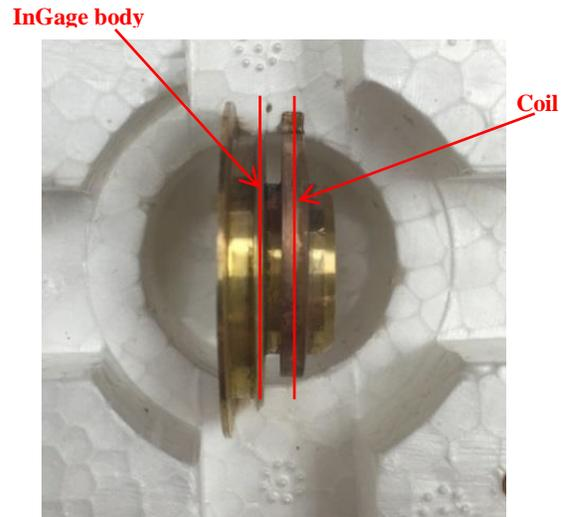

Figure 2
- 2.3 Verify the coil is straight and parallel with the InGage body. (Figure 2)